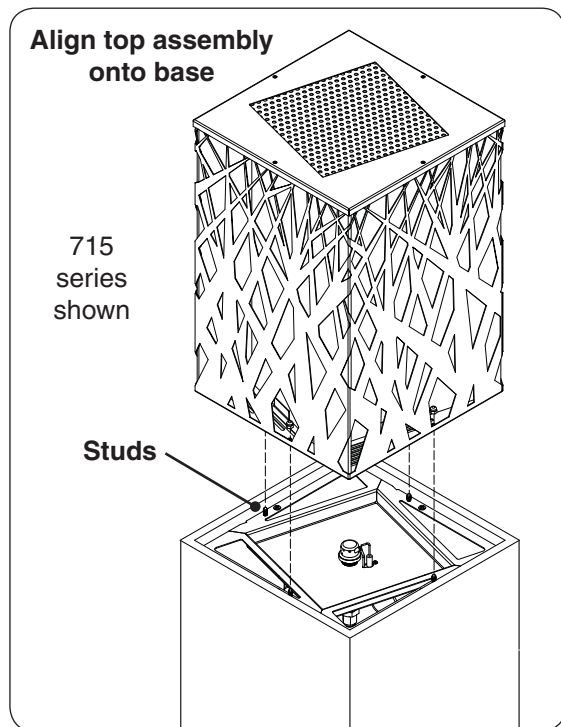

Fig. 19-1 Place top assembly
1. The top assembly is pre-assembled at the factory. **CAREFULLY** place the top assembly onto the lantern base. See Fig. 19-1.